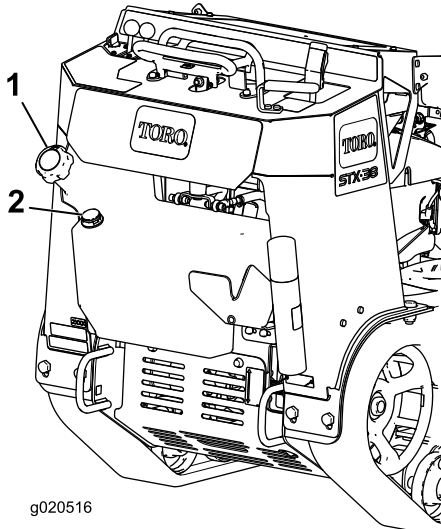

Figure 17
3. Clean around the fuel-tank cap and remove it (Figure 17).